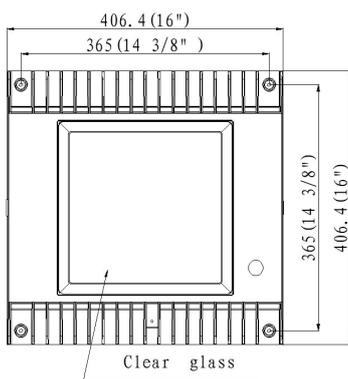

Fig. 4
1. Drill holes on the roof according to the dimensions on Fig. 4.
- Remove the threaded adaptor from the back of fixture. Drill holes on the roof according to the dimensions on Fig. 4.